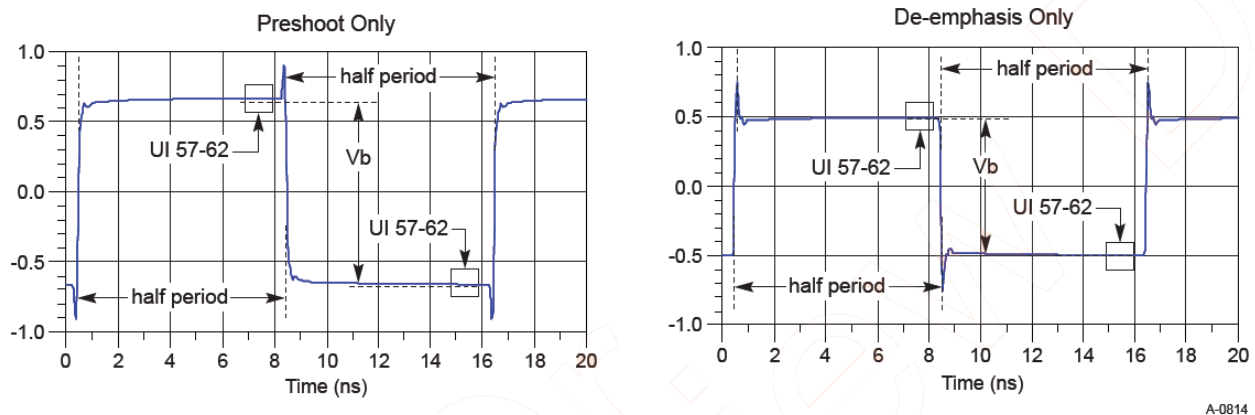

Figure 189 Waveform measurement points for preshoot and de-emphasis
8.0 GT/s, 16.0 GT/s and 32.0 GT/s PCIe signaling must support the full range of presets given in Table 8-1 (PCIe Base Specification Revision 5.0). Presets are defined in terms of ratios, relating the pre-cursor and post-cursor equalization voltages. The pre-cursor (V_c) is referred to as pre-shoot, while the post-cursor (V_b) is referred to as de-emphasis. This convention permits the specification to retain the existing 2.5 GT/s and 5.0 GT/s definitions for Tx equalization, where only de-emphasis is defined, and it allows preshoot and de-emphasis to be defined such that each is independent of the other. The tolerances in Table 8-1 (PCIe Base Specification Revision 5) also apply to 2.5 and 5.0 GT/s de-emphasis. The maximum swing, V_d , is also shown to illustrate that, when both c_{+1} and c_{-1} are nonzero, the swing of V_a does not reach the maximum as defined by V_d . The high frequency nature of PCIe signaling makes measurement of single UI pulse heights impractical. Consequently all amplitude measurements are made with low frequency waveforms as shown in Figure 189.